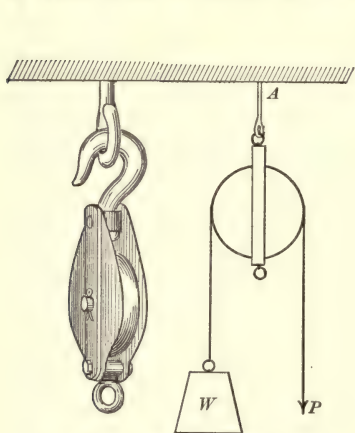

FIG. 24. — Fixed pulley.
28. The pulley. The **fixed pulley**, shown in figure 24, consists of a wheel with a grooved rim, called a **sheave**, free to rotate on an axle which is supported in a fixed **block**. A flexible rope or cable passes over the wheel. It is evident